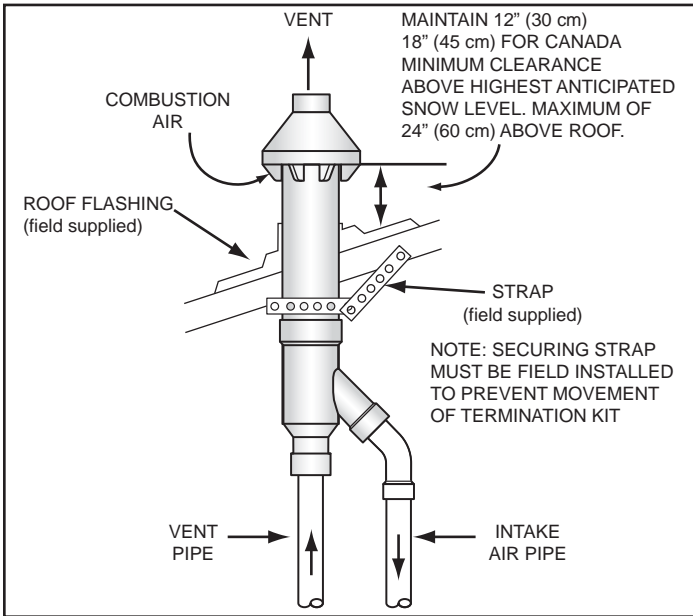
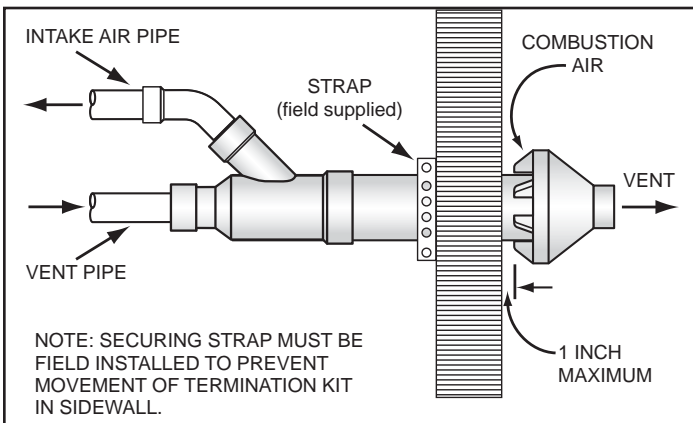

Figure 29. Concentric Termination Clearances - Vertical Installation
Figure 30. Concentric Termination Clearances - Side-Wall Installation
3. When installing a concentric termination vertically through the roof; ensure that all exterior vertical clearance requirements for the concentric termination, shown in *Figure 29* (page 31) are being maintained. These clearances and those cited by local and national codes must be maintained.
Assemble and install the concentric termination. Refer to *Figure 28*, *Figure 29* (page 31) and *Figure 30* for these instructions: